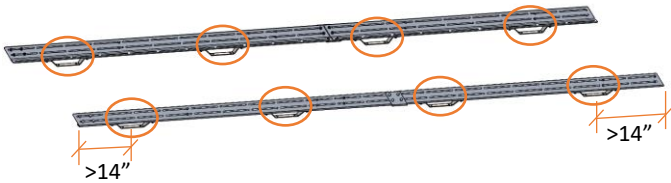
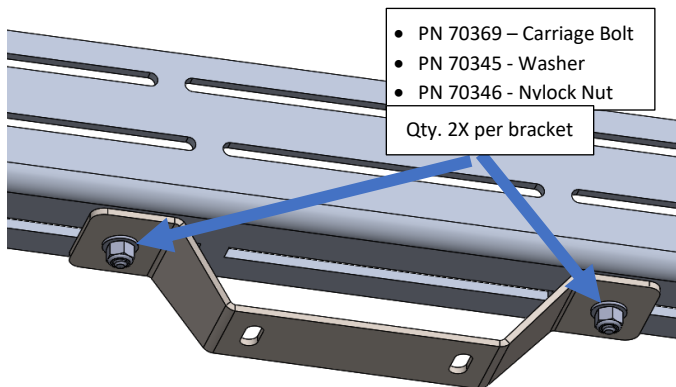

Figure 3: Mounting Bracket Locations
Figure 4: Fastening Transit Mounting Bracket (Underside)
- Fasten mounting brackets to side rail subassemblies completed in Step 1 at the following locations referenced in Figure 3. Use the 5/16" hardware and reference Figure 4 for proper placement.